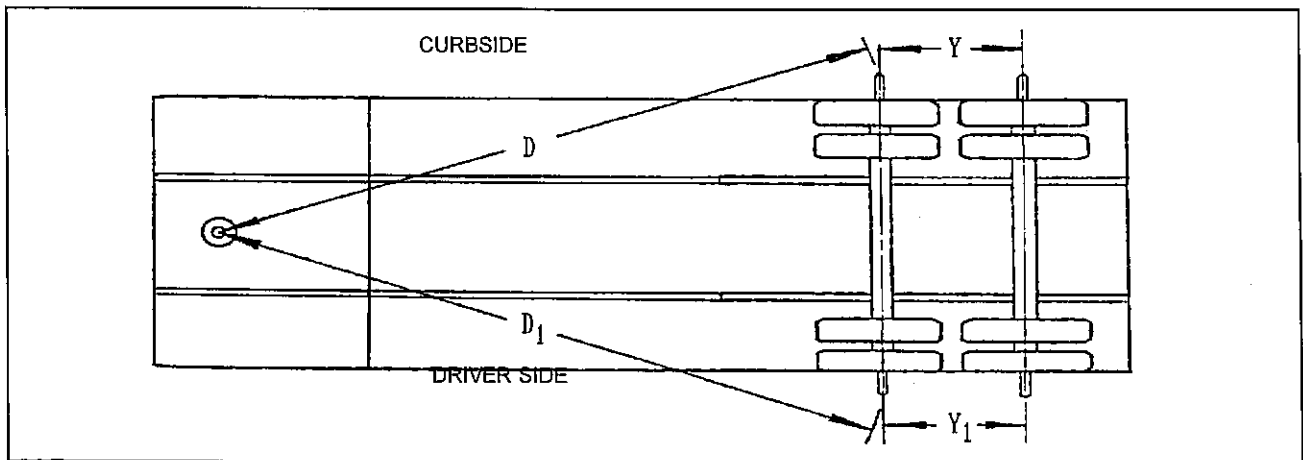

Fig. 4-9 Checking Axle Alignment
4. Measure (D) from the plumb bob to the center point on one end of the axle. Record this measurement (See Figure 4-9).
5. Measure (D1) to the other end of the axle in the same manner as in Step 4. Record this measurement (See Figure 4-9).